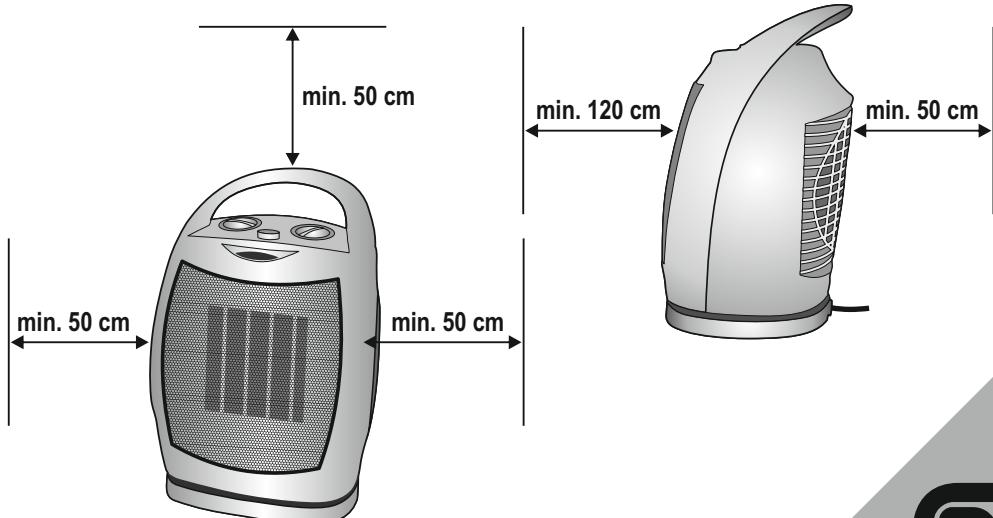

figure 2 • 2. ábra • 2. obraz • figura 2. • 2. skica • 2. skica • 2. obrázek • rys. 2.
2. Never locate the unit directly in corners and observe the minimum mounting distances indicated in Figure 2. Always observe the health and safety regulations valid in the country of use.
3. Set the appliance on a stable and horizontal surface. The free flow of warm air must be ensured for proper operation, therefore, please note the minimum installation distances indicated in **Figure 2**.
4. Verify that the unit's mode selector (3) is in the OFF "0" position.